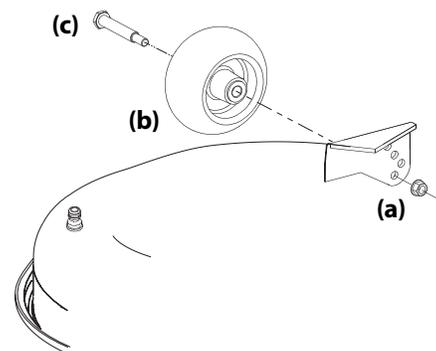

Figure 2-15
- Remove the lock nut securing one of the front gauge wheel shoulder screws to the deck. Remove the gauge wheel and shoulder screw. See Figure 2-15.